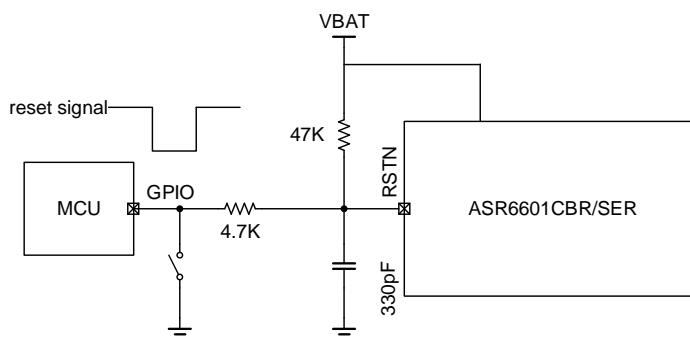

Figure 2-6 ASR6601CBR/ASR6601SER Reset Circuit
1. The ASR6601CBR/SER RSTN can be used as an input and an output. When the RSTN is used as an output, it is usually connected to the nRST of an external chip to control the synchronous reset of external chips. When the RSTN is used as an output, the resistance value of the serial resistor in the RSTN circuit (as shown in Figure 2-6) must be 0 ohm.